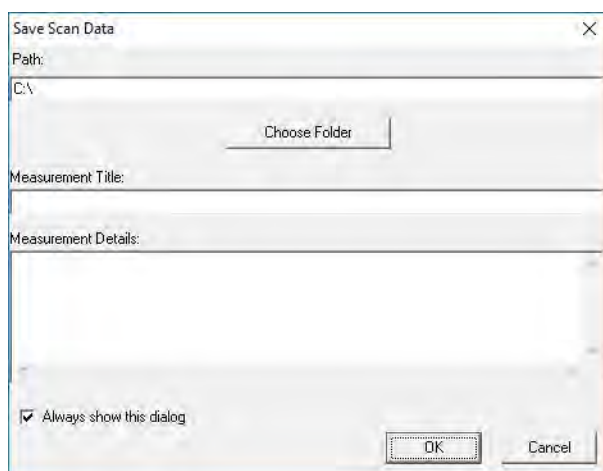

Figure 5.3: Save scan data
5. On the *Save Scan Data* dialog (figure 5.3), specify the path to be used to save the measurements. Either type the path name manually or click the *Choose Folder* button.